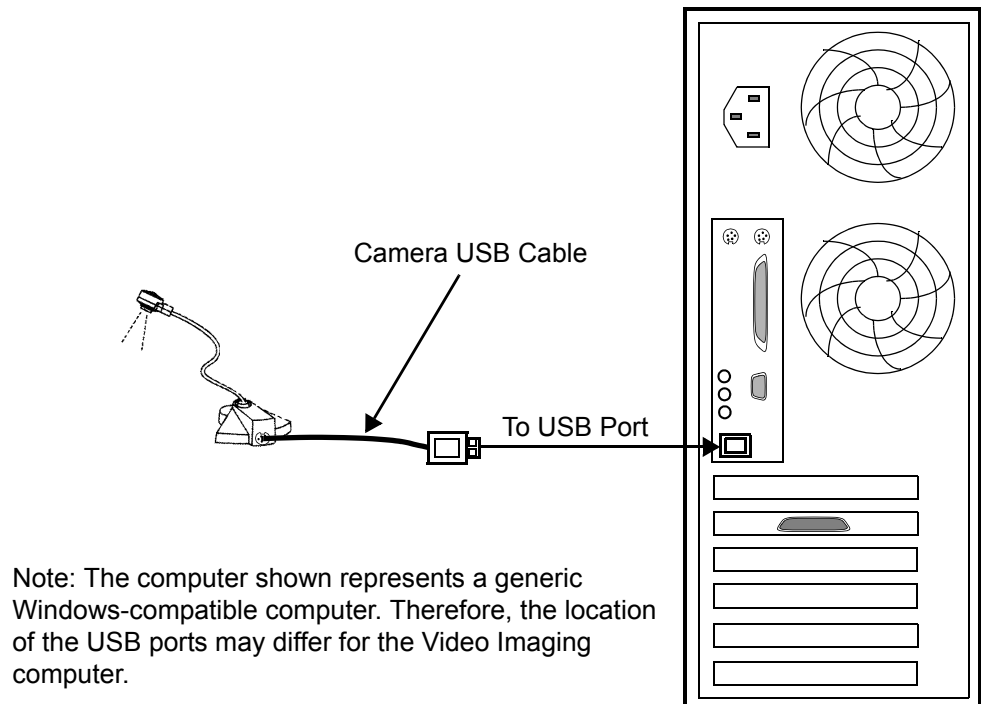

Figure 2-3: FlexCam to PC Connection
2. Connect the camera's USB cable to one of the computer's available USB ports (see Figure 2-3).